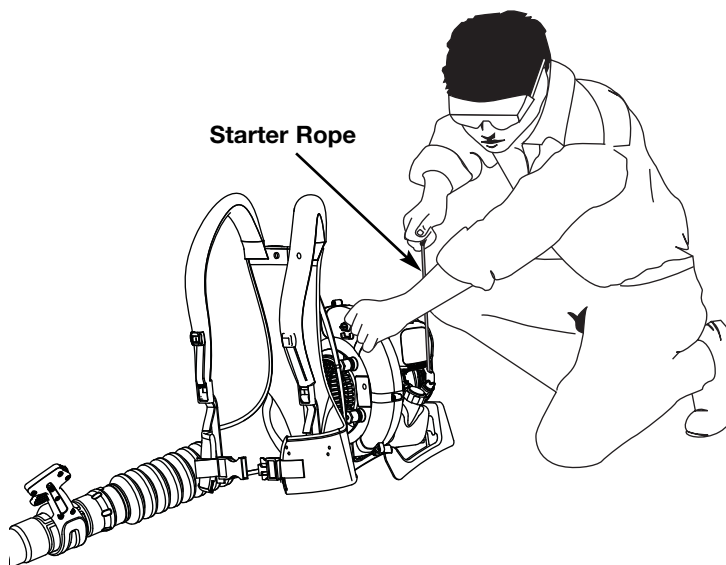

Fig. 16
WARNING: Avoid accidental starting. Make sure you are in the starting position when pulling the starter rope (Fig. 16). To avoid serious injury, the operator and unit must be in a stable position while starting. To avoid serious personal injury, make sure that the blower tube is locked in place or firmly installed.
5. Crouch in the starting position and pull the starter rope out about 4 inches, then pull 4 times in smooth and rapid pulls to start engine (Fig. 16).